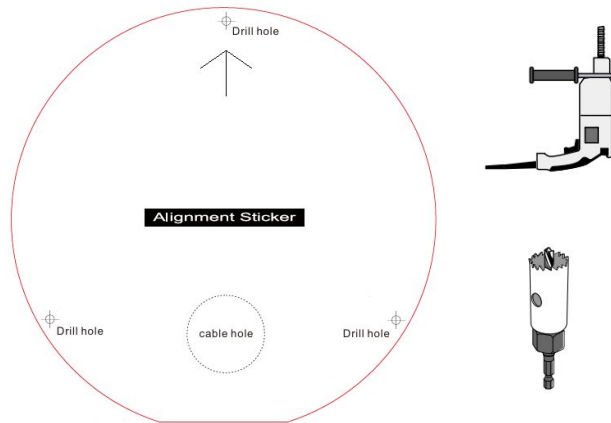

Figure 1-1
**Step 1** Use the included position map and drill the appropriate mounting holes and cable exit, then install anchors (if needed). Keep in mind the orientation of the camera's base. See Figure 1-1